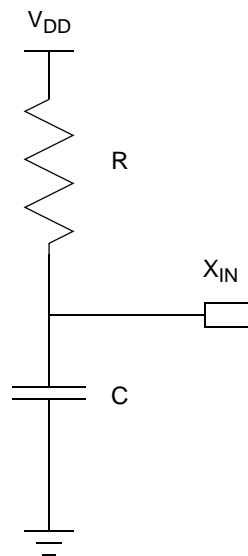

Figure 41. Connecting the On-Chip Oscillator to an External RC Network
Figure 41 illustrates a recommended configuration for connection with an external resistor-capacitor (RC) network.